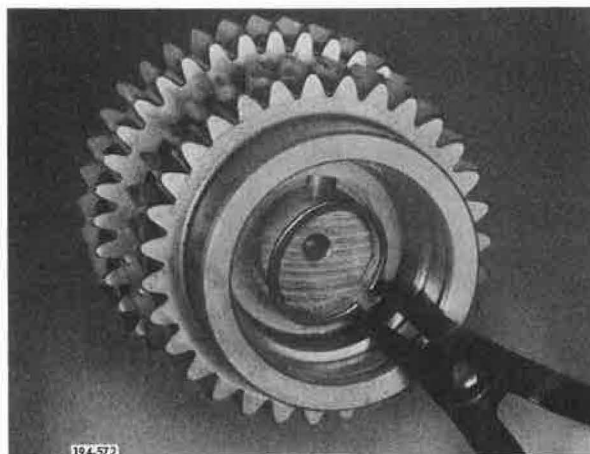

Figure 5-453. Installing Snap Ring
6. Install gear retaining snap ring, using snap ring pliers J-6435 or equivalent. See Figure 5-453.